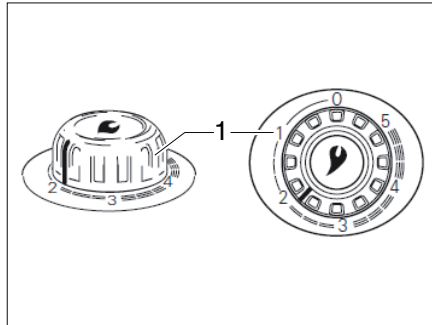

Fig. 103 Hot-air heater control knob
- Turn the control knob on the heater (Fig. 103,1) to the required position and press down to its stop limit.
- Turn the control knob at the heater (Fig. 103,1) to "0". The automatic ignition is switched off simultaneously.
- ▷ Further information can be obtained from the separate instruction manual "Truma S 3004 (P) / S 5004".